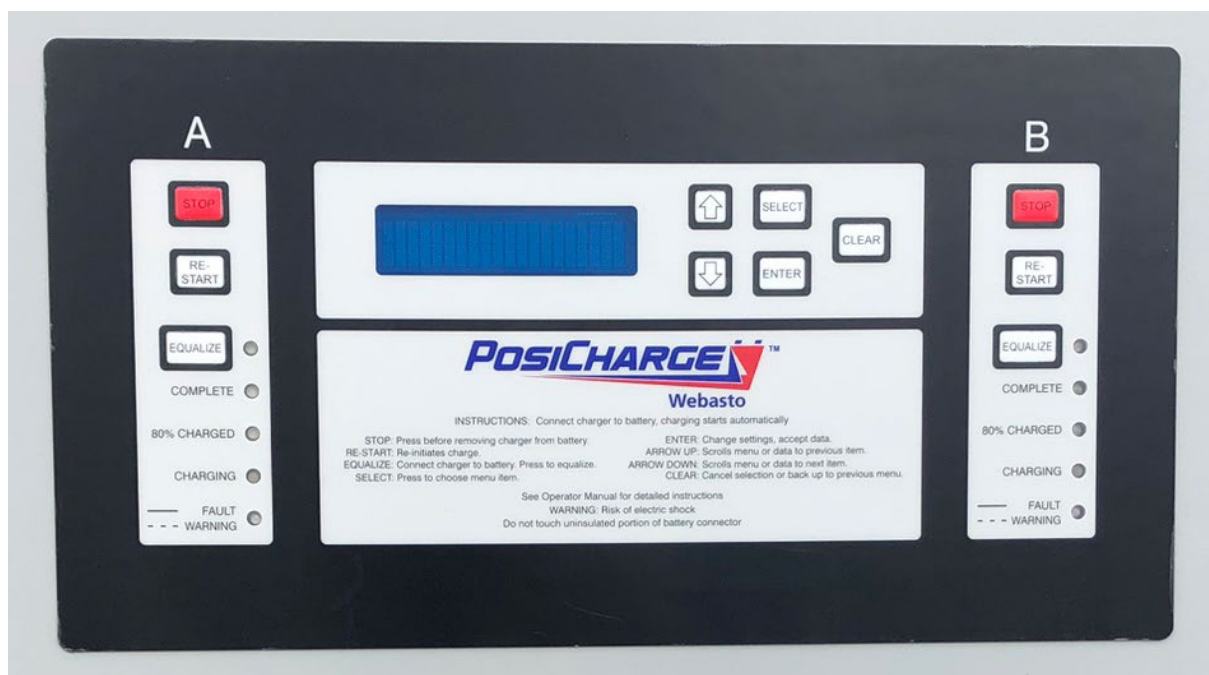

Figure 4: PosiCharge Charging Station Front Panel Layout.
Step 4: Check the charging station and charging cable for any damage. If there is damage, report it immediately by calling PDX Maintenance at (503) 460-4683.
Step 5: Start charging the eGSE. Connect the eGSE battery to either one of the ports on the charging station to start charging. The front panel (see **Figure 4**) of the charging station will display the status of the charging event associated with either charging port A or B, as described below.